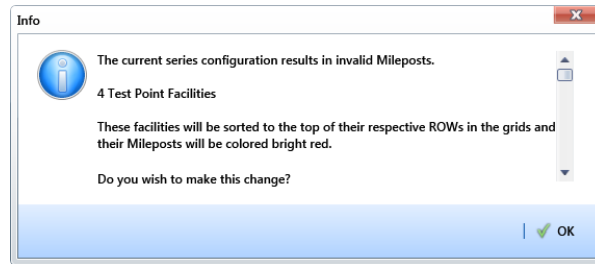

Figure 3-49. Pipeline Series Message
- 11 When a message similar to the following example displays, click  **OK** to apply *Pipeline Series* to effected mileposts (Figure 3-49). To cancel the operation and close the message, click the Windows close button .